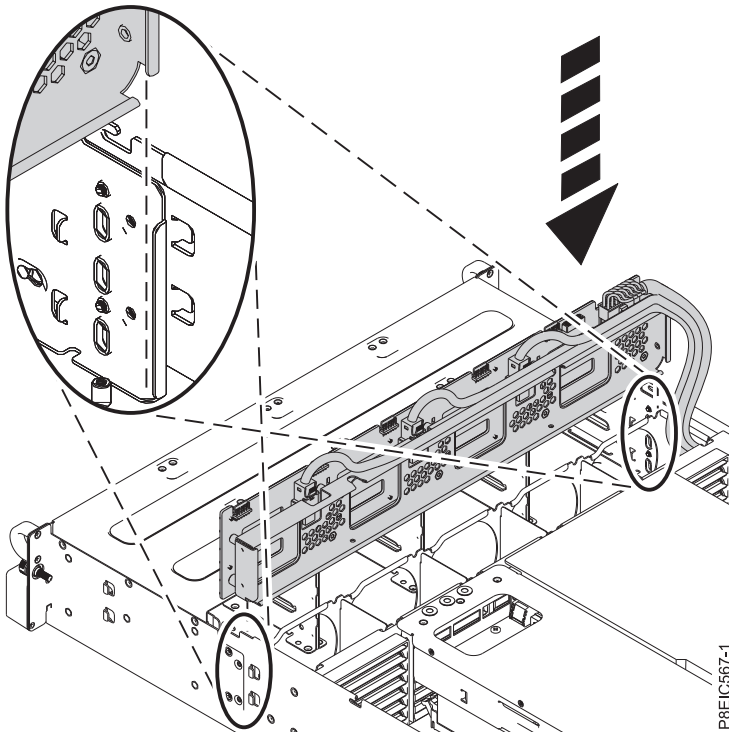

Figure 30. Installing the disk drive backplane
4. Using the alignment channel, lower the disk drive backplane straight into the chassis, as shown in Figure 30.